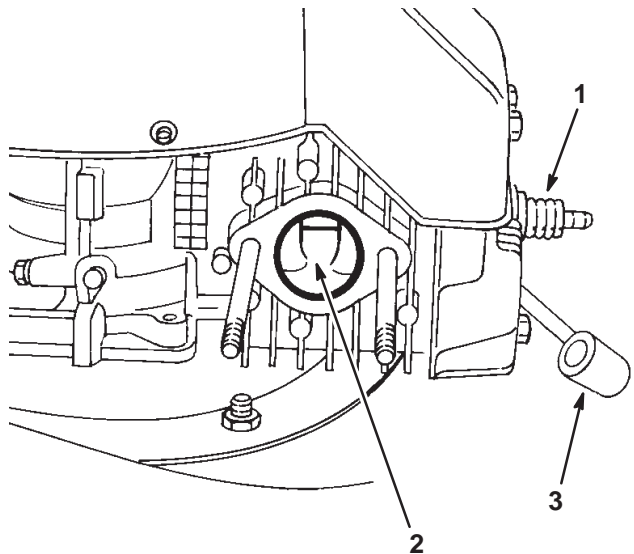

Figure 13
4. Make sure the spark plug wire is off of the spark plug, then slowly pull the starter rope until the piston covers the exhaust port (Fig. 13).
5. Clean the carbon from the exhaust port with a flat, hardwood scraper (Fig. 13).